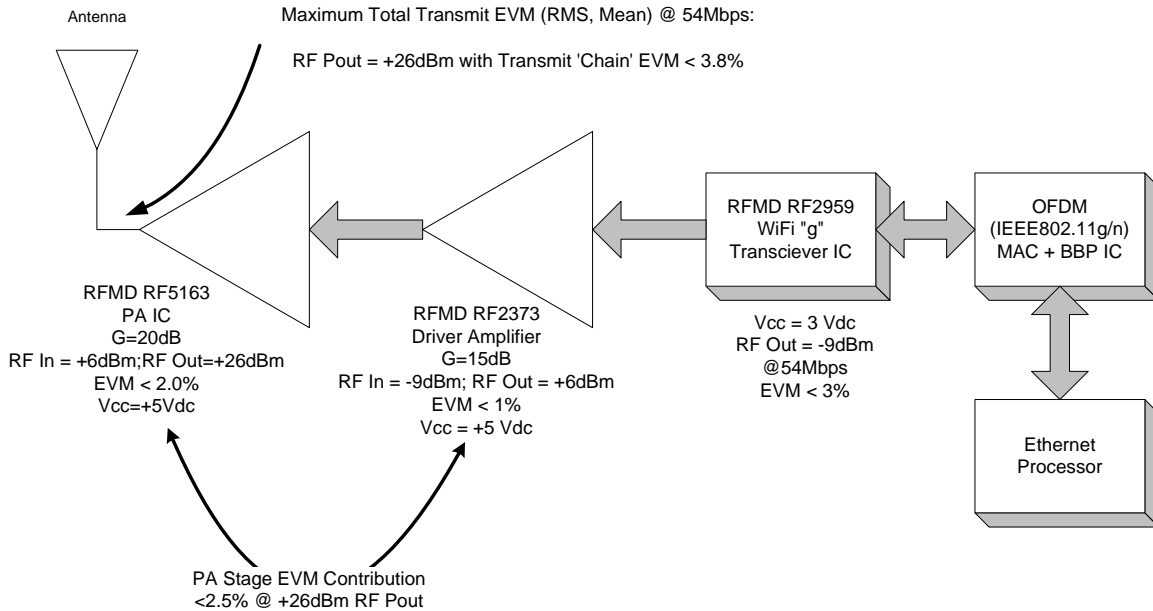

Figure 1. IEEE802.11g/n AP Transmitter Major Component Line-Up
Figure 1 below shows the major component line-up for an ultra linear fixed application (e.g., an access point (AP) transmitter capable of producing +26dBm RF P_{OUT} with an amplifier stage (driver + final stage power amplifier IC, RF2373 + RF5163) EVM contribution of < 2.5% EVM, RMS (mean).